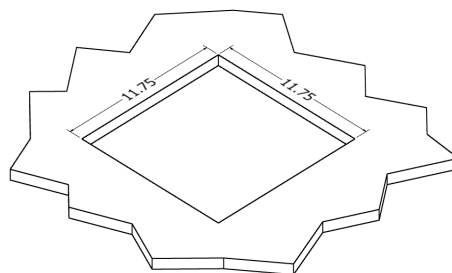

Figure 1 - Cutout Dimensions
Step 1 - Cut a 12" horizontal x 12.25" vertical opening in the "hard lid" ceiling or wall/ceiling (special cutting tools may be required – ref. Figure 1).